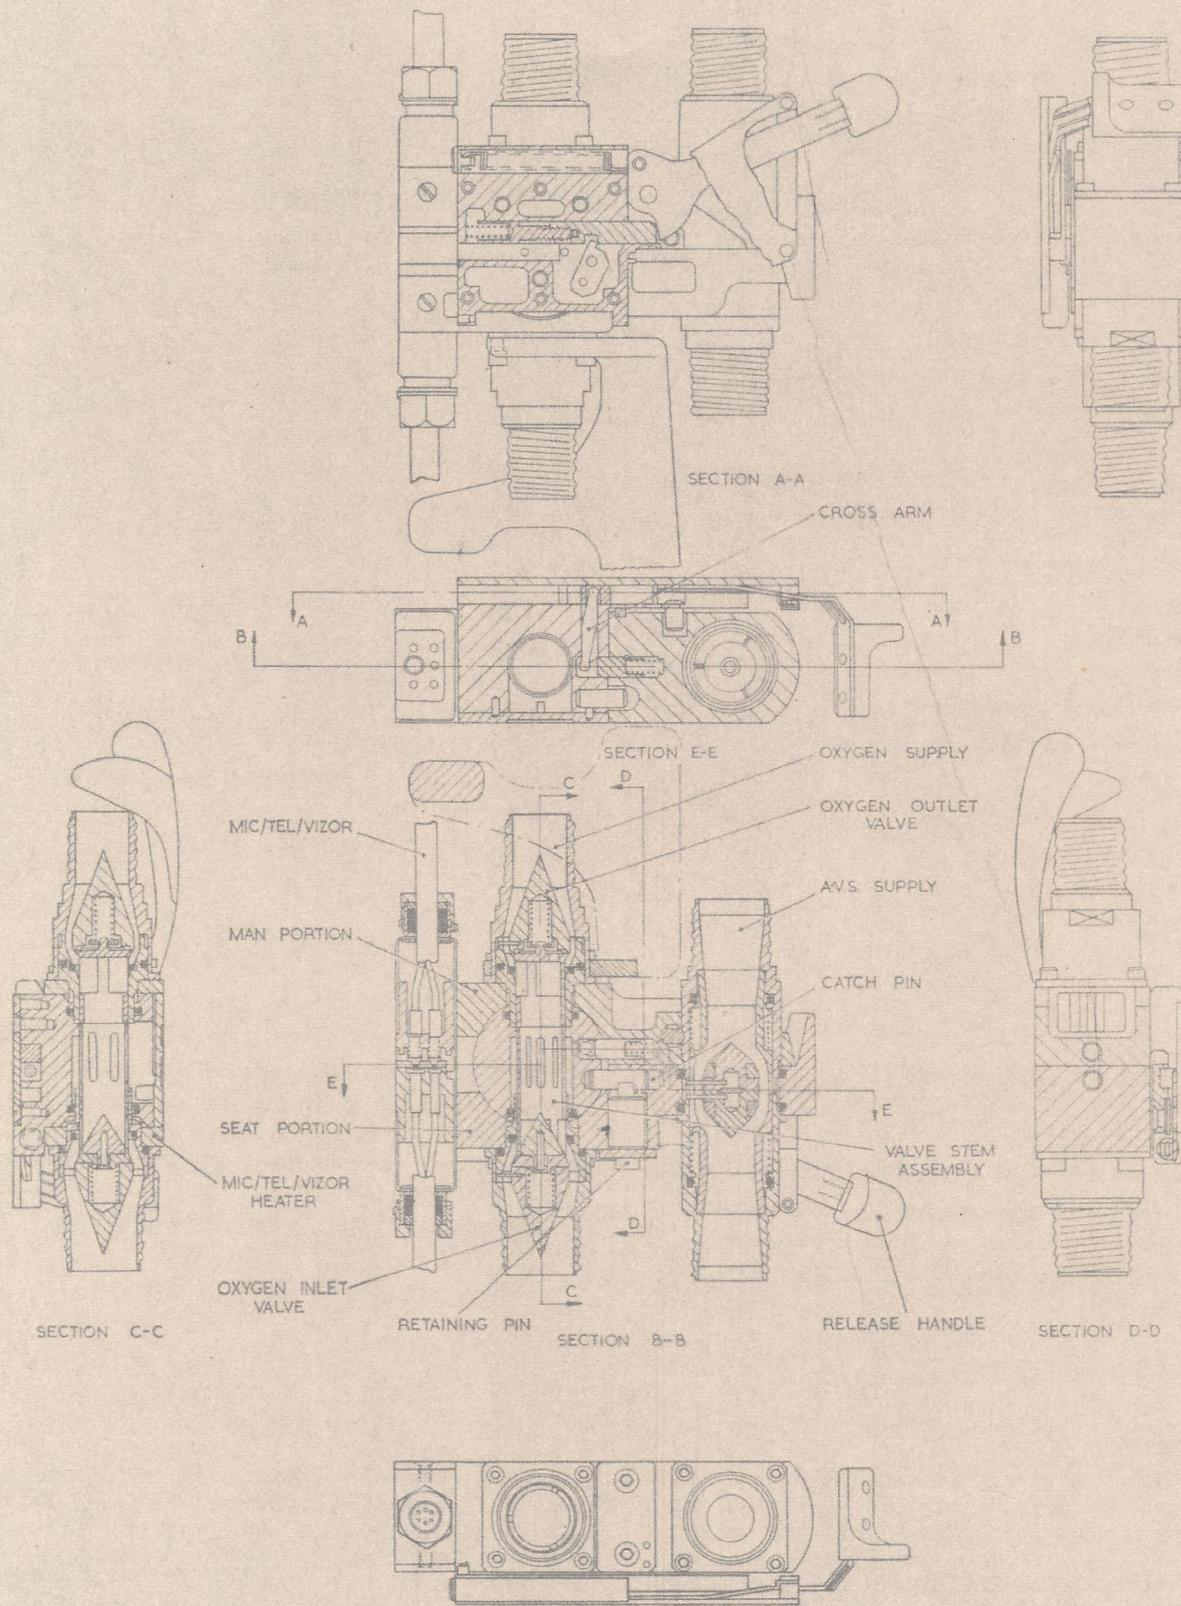
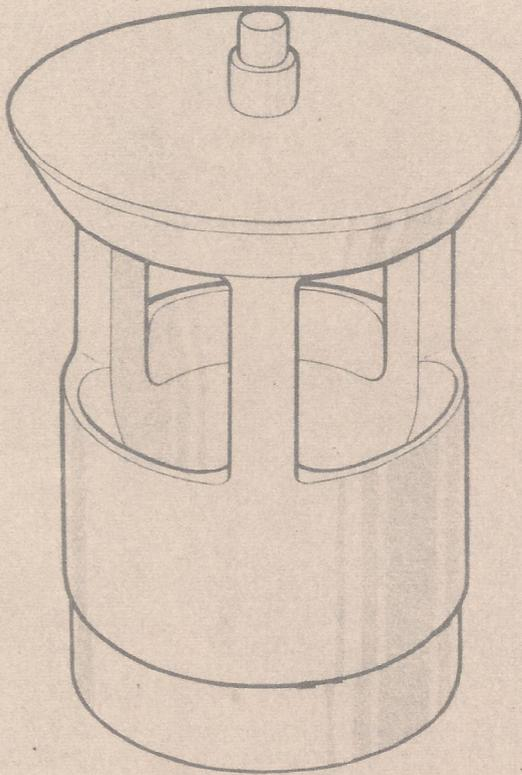

Fig. 1. Details of P.E.C., Type MSC3
Fig. 4. Oxygen outlet sleeve (MSC103-002)
3. The connector (*fig. 1*) consists of two main sub-assemblies: a man portion and a seat portion. It is used for static seats and connects the following services:—
12. This is a man portion of the P.E.C. and is basically similar to the Type MSC3 (fig. 1). The Type MSC103-002 embodies a redesigned oxygen outlet sleeve (fig. 4) which prevents the user from breathing ambient air when the demand oxygen system is introduced. Connecting, disconnecting and servicing operations are identical with those for the Type MSC3.▶